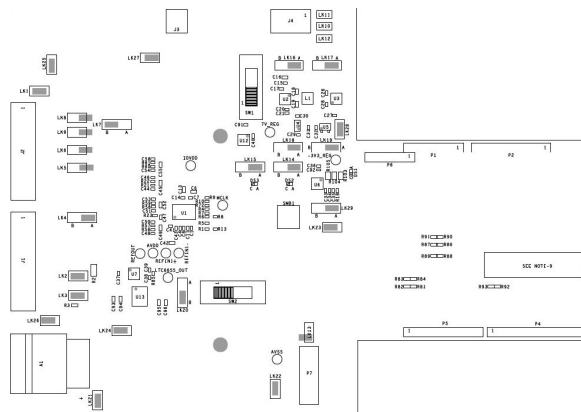

Figure 6. EVAL-AD4190-4ARDZ Load Cell Hardware Link Configuration
1. Set all links on the EVAL-AD4190-4ARDZ for load cell application as shown in Figure 6.